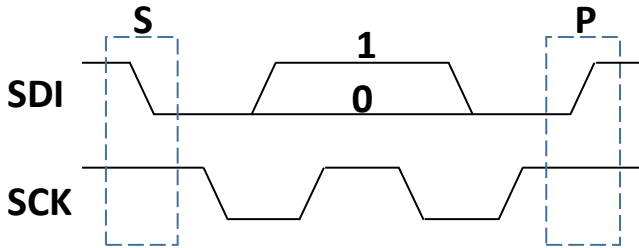

Figure 7. I2C bus protocol definitions
Figure 7 on next page shows the start (S) and stop (P) bits and a data bit. Data must be held stable at
Each serial bus operation, like write, starts with the start (S) bit (see Figure 7). After start (S) the MAS6505 device address with write bit (AW Table) is sent followed by an Acknowledge (A). Next the target register address is sent and followed by an Acknowledge (A). Then the data is written one byte
at a time. Each byte is followed by an Acknowledge (A). The serial bus operation is ended with stop (P) command (see Figure 7). The MAS6505 starts configured measurement right after receiving the Configuration register (EE_{HEX}) bits.